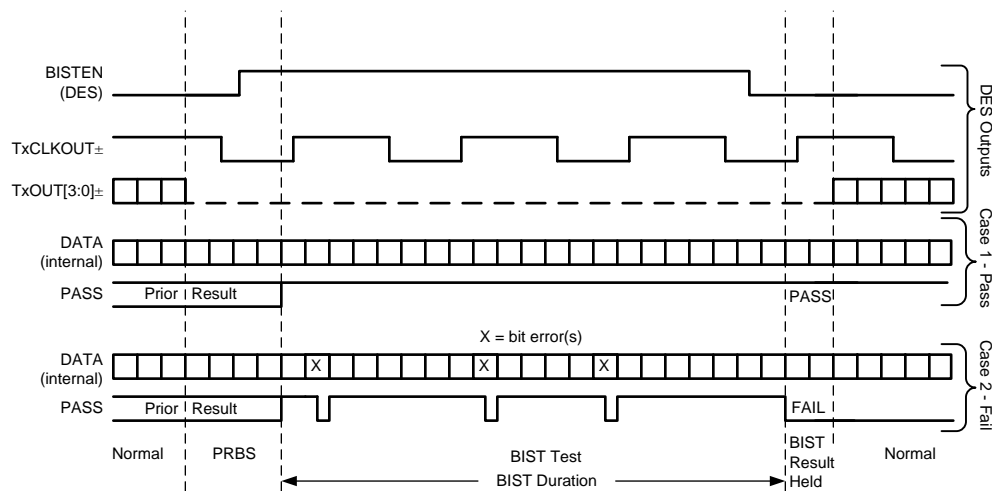

Figure 17. BIST Waveforms in Conjunction With Deserializer Signals
Step 4: The link returns to normal operation after the deserializer BISTEN pin is low. Figure 17 shows the waveform diagram of a typical BIST test for two cases. Case 1 is error-free, and Case 2 shows one with multiple errors. In most cases it is difficult to generate errors due to the robustness of the link (differential data transmission, and so forth), thus they may be introduced by greatly extending the cable length or faulting the interconnect medium.